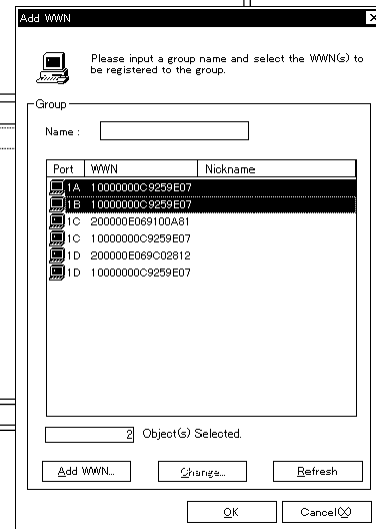

Figure 4.1.2
- ③ Since the Add WWN window (Figure 4.1.2) is displayed, select (CL) “WWN” registering from the list, and select (CL) the [OK] button.
- ④ The WWN that has been newly added is reflected in the lower right list.